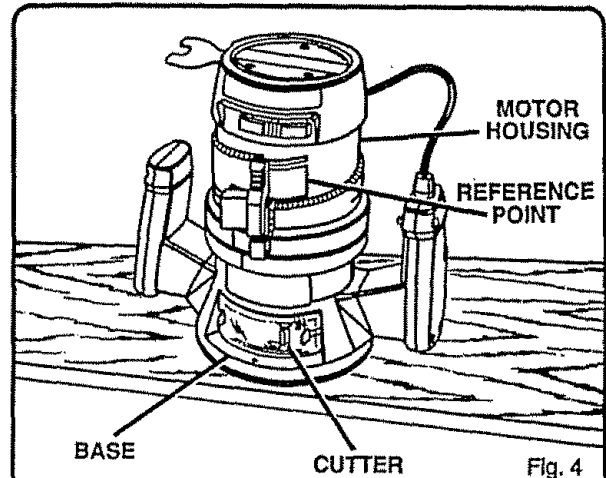

Fig. 4
3. Turn the depth adjusting ring until tip of cutter touches flat surface. *See Figure 4.*